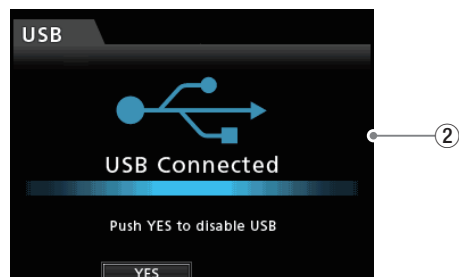

Fig 3
- 1-2-2 While connecting by USB, the in-progress indicator shown in Fig. 3-① will appear. When this unit is connected by USB, "USB Connected" (Fig. 3-②) will appear.
- 1-2-2 USB接続処理中の画面(Fig3-①)を表示後、本機がUSB接続準備状態になると"USB Connected"(Fig3-②)が表示される。